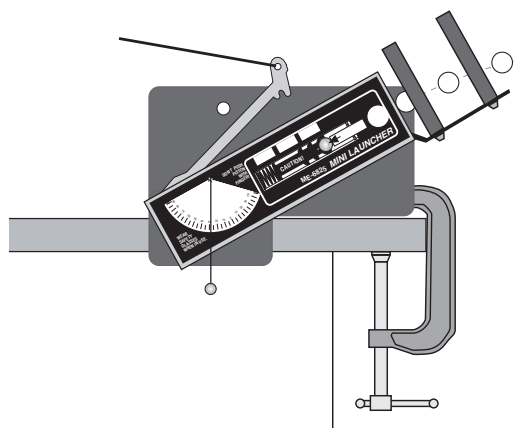

Figure 2.1: Setup to determine initial velocity
- ① Clamp the Mini Launcher near one end of a sturdy table as shown in Figure 2.1.
- ② Adjust the Mini Launcher to launch either at an angle between 20 and 60 degrees above the horizontal, or 10 to 40 degrees below.
- ③ Attach the photogate bracket to the Launcher and attach two photogates to the bracket. Plug the photogates into a computer or other timer.